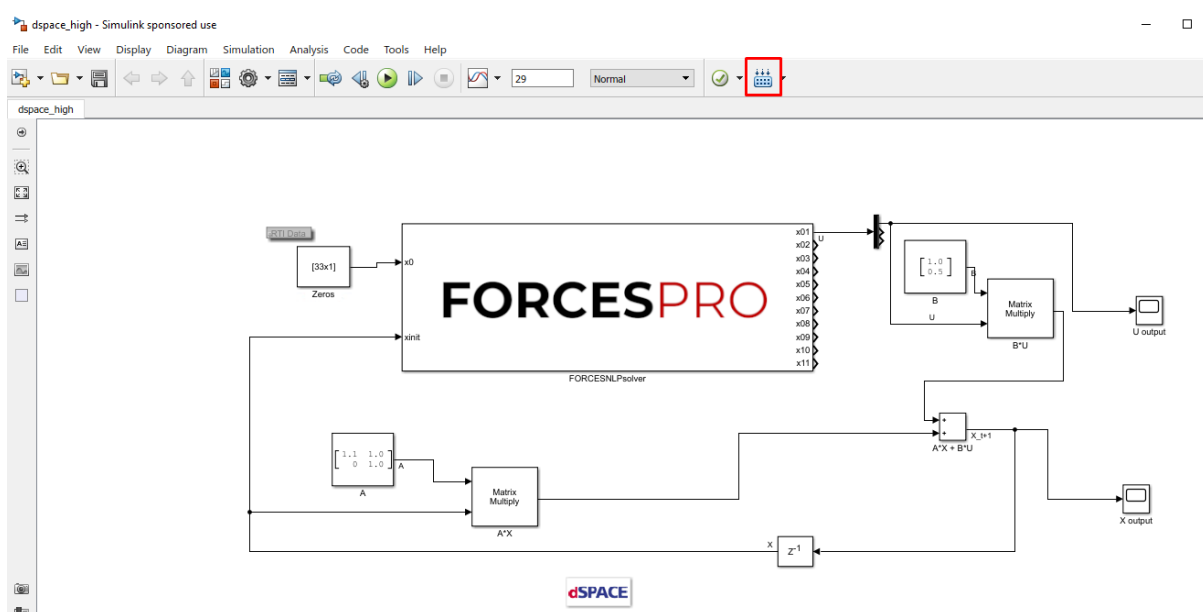

Figure 13.15: Compile the code of the Simulink model.
15. (Figure 13.15) Compile the code of the Simulink model. This will also automatically load the model to the connected dSPACE platform.